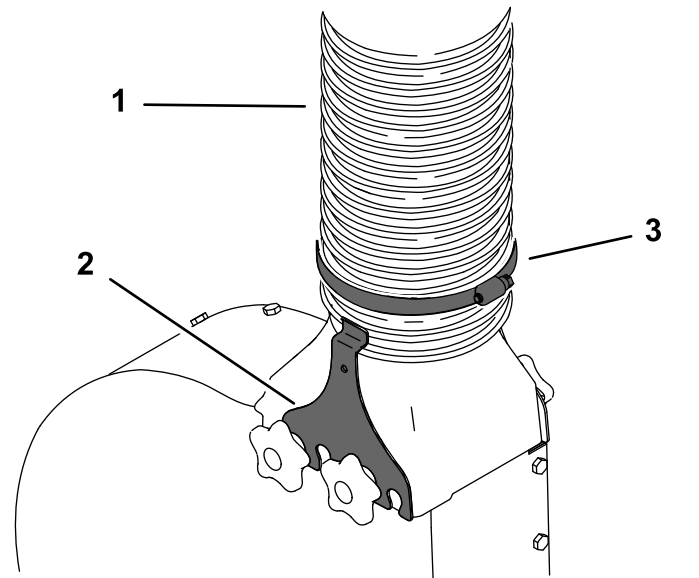

Figure 20
2. Secure the other end of the tube to the blower assembly using the hose clamp and 2 blower clamps (Figure 20).